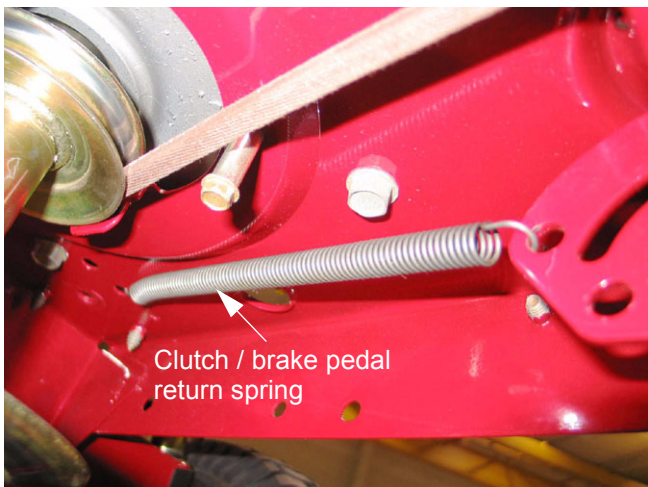

Figure 9.3
9.3. A lighter extension spring, reaching forward from the arm on the pedal shaft maintains slight pedal pressure until the rear spring comes into play. See Figure 9.3.